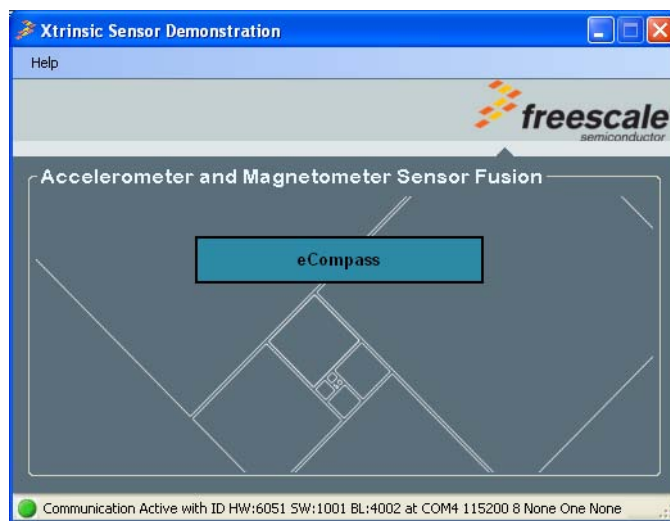

Figure 4. E-Compass software launch screen
2. The launch screen shown in Figure 4 will appear. Click the eCompass button to launch the application.